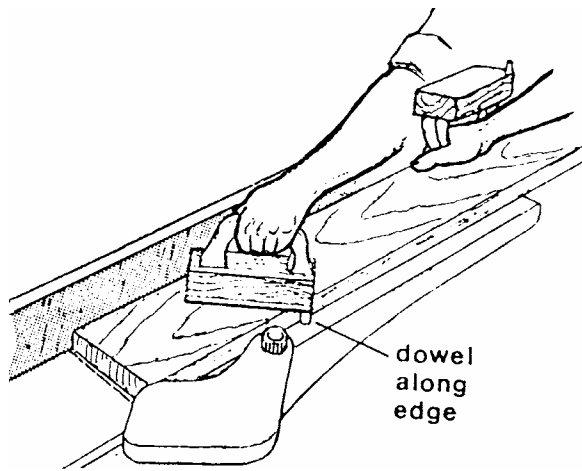

Figure 36
1. Place a push block near the front of the workpiece and start feeding wood with the right hand until guard has opened and cut is started (Figure 36).